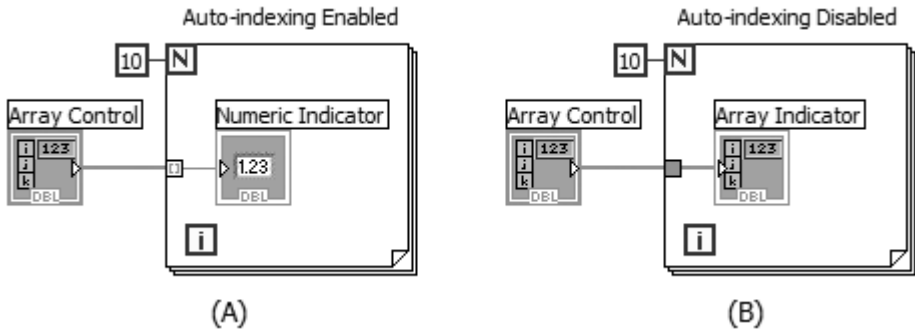

Figure 7.10
Auto-indexing also applies when you are wiring arrays into loops. If indexing is enabled as in loop (A), the loop will index off one element from the array each time it iterates (note how the wire becomes thinner as it enters the loop). If indexing is disabled as in loop (B), the entire array passes into the loop at once (see Figure 7.10).